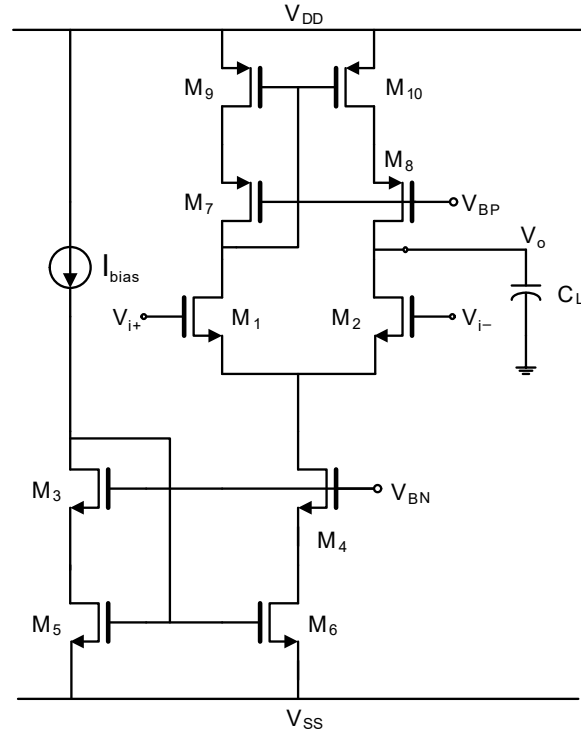

Figure 6-8: Differential Amplifier with Cascode Current Mirror as the Active Load and Tail Current
The second differential amplifier is shown in Figure 6-8. This circuit utilizes low-voltage cascode current mirrors as the tail current source and the active load. The design equations for this structure are the same as the previous structure except the output impedance of the amplifier and current source are now larger. This will increase differential-mode gain while decreasing common-mode gain, thus a vastly improved CMRR. The main drawback of this circuit is a reduced input common-mode range and output swing.
3. Design the differential amplifier with cascode current mirrors in Figure 6-8 to obtain the following specifications: